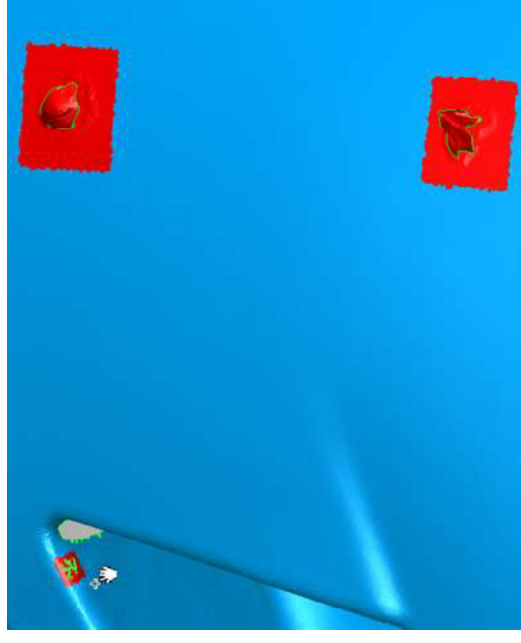

Figure 91
11. Locate and navigate as necessary to make the selections shown in **Figure 91**.